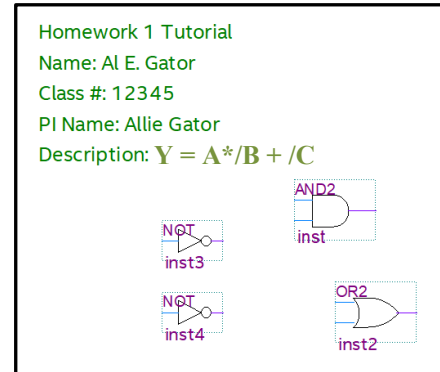

Figure 2: BDF with logic symbols
- 13) Rearrange your gate symbols in approximately the placement you would like for the logic diagram you are trying to construct. You can move a component by selecting it with your mouse, and either holding down the left mouse button and moving it to another location on your BDF or using your up/down/left/right arrow keys. The window should look similar to Figure 2.